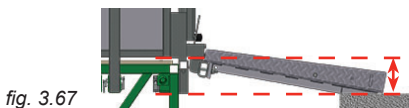

fig. 3.67
- 5- Make sure the unit has come to a full stop and is positioned adequately to ensure that the landing ramp is properly seated on the landing floor level. The floor of the transport platform must be between 5 1/2" and 7" (14 cm and 18 cm) above the landing floor level, as shown in fig. 3.67.